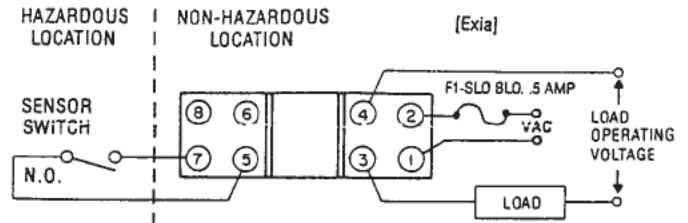

FIG. 1. Connection diagram, GEMS Programmable SAFE-PAK, N.O. mode.
1. **Associated Equipment — Caution:** The Safe-Pak can be installed in panel assemblies in Class I, Div. 2, Groups A, B, C & D or in non-hazardous location; only the sensor terminals provide an intrinsically safe output (see Figs. 1, 2, 3A, 3B, [Exia] means associated equipment; "Appareillage connexe", located in safe area.